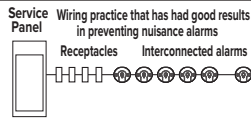

Figure 9-E
- Figure 9-D illustrates interconnection wiring. Improper connection will result in damage to the alarm, failure to operate, or a shock hazard.